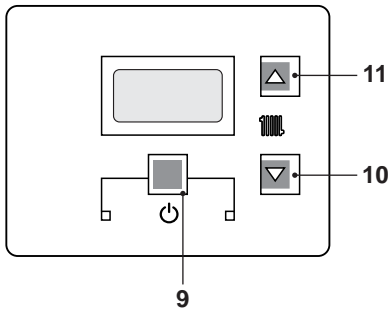
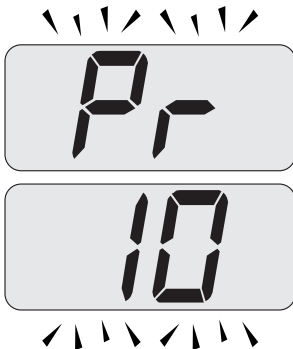

Fig. 7.32
Fig. 7.34
- Enter the "programming mode" by pressing keys 9 - 10 - 11 (Fig. 7.32) for 10 seconds at the same time until the letters **Pr** that alternate with code **01** are displayed on the LCD display, indicating that "parameter 01"(Fig. 7.33) has been activated.
- Press keys 9 and 11 (Fig. 7.32) at the same time until the value of parameter 10 (30=180 seconds) is displayed on the LCD display (Fig. 7.35).
- Scroll the various parameters using keys 10 or 11 until the letters **Pr** that alternate with code **10** are displayed on the LCD display, indicating that "parameter 10" (Fig. 7.34) has been activated.
- By pressing key 9 (Fig. 7.32) confirmation of the inserted value is obtained.
- Press keys 9 and 10 (Fig. 7.32) at the same time to exit without changing the value (return to the parameters list Fig. 7.34)
- Press keys 9 - 10 - 11 (Fig. 7.32) at the same time for 10 seconds to exit the "programming mode".